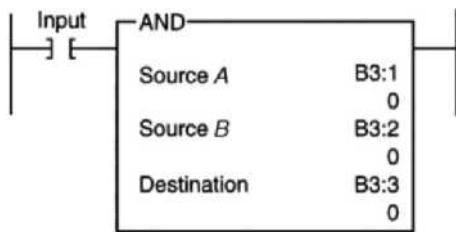

Figure 4-29 Logical AND program for assignment 12.
12) Enter the logical AND program shown in Figure 4-29 into the PLC. Use the data monitor function to store the following data: